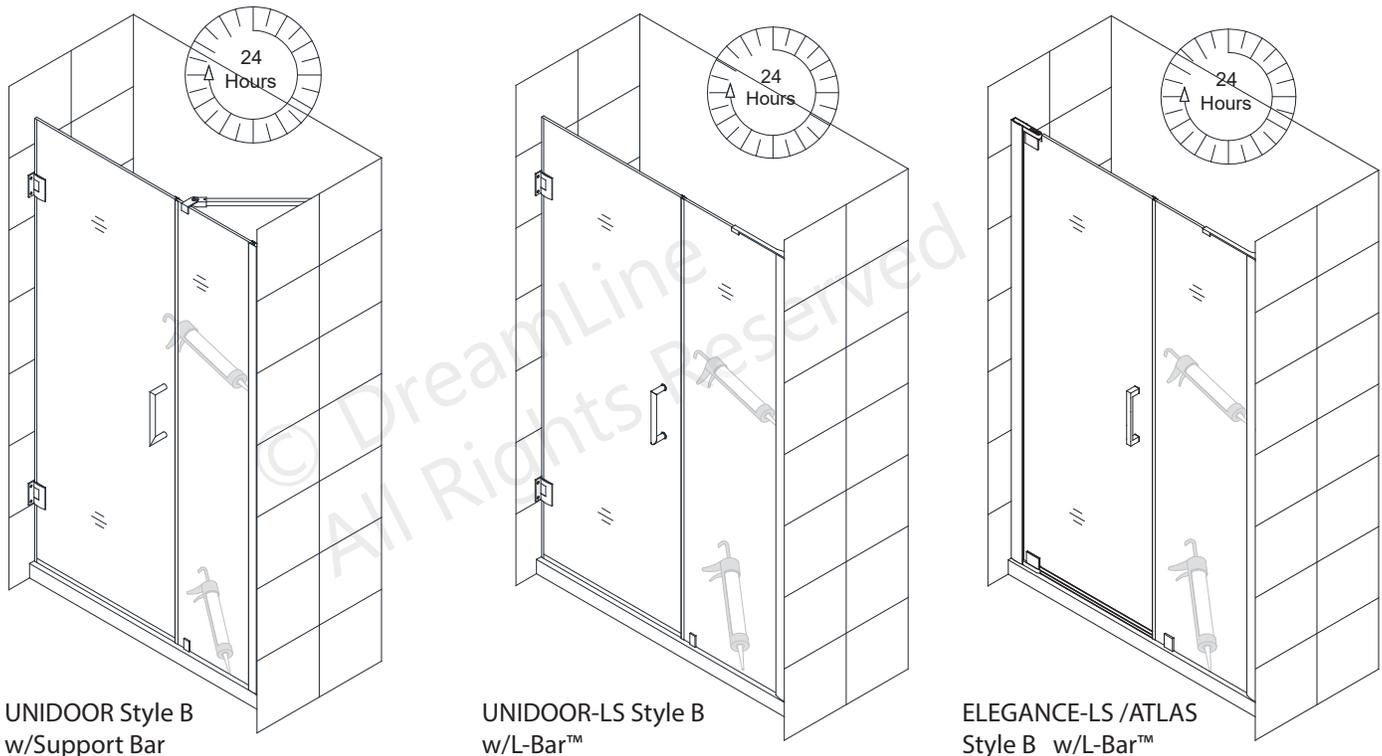

Fig 14
14. Apply a good quality mildew-resistant silicone along the connection of the **Wall Profile** to the wall and the **Panel Glass** to the threshold. **(Fig 14)**